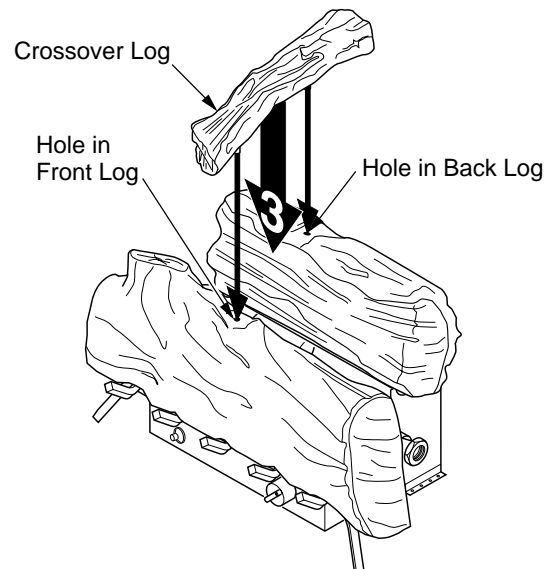

Figure 38 - Installing Crossover Log
3. Place the crossover log on top of the back log and front log making sure pins are inserted into holes on top of logs 1 and 2 (see Figure 38). This log must be placed as shown in Figure 38 or the pins will not seat into holes.